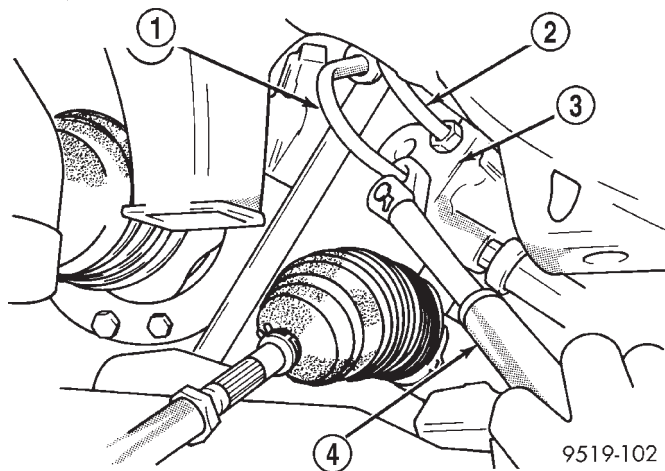

Fig. 24 Torquing Power Steering Fluid Hose Tube Nuts
(5) Using Crimper, Hose Clamp, Special Tool C-4124 properly crimp the clamps on the power steering fluid hoses at the power steering oil cooler line.
(6) Install the power steering fluid return hose on the steering gear. Then using a crow foot and torque wrench (Fig. 24) tighten the tube nut to a torque of 31 N·m (275 in. lbs.).